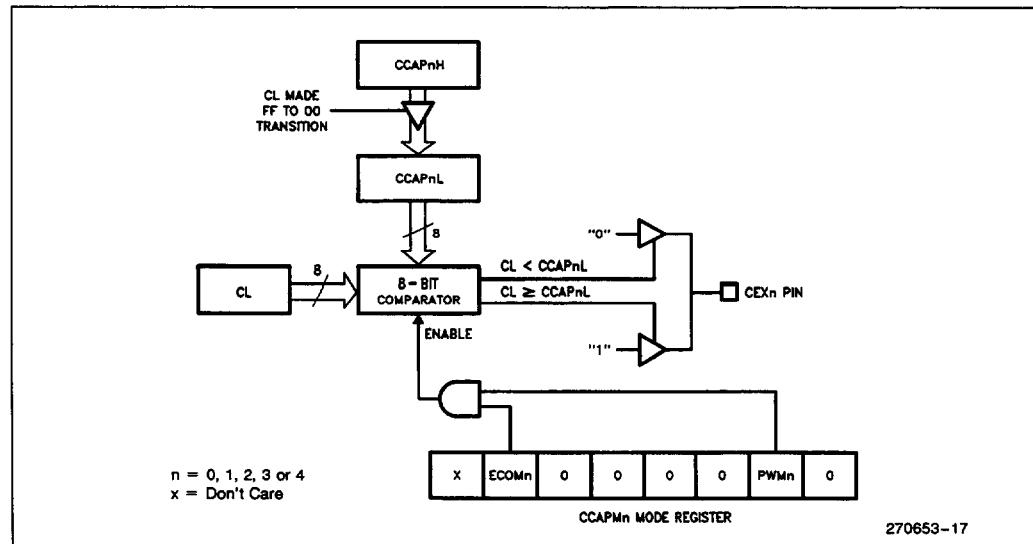

Figure 20. PCA 8-Bit PWM Mode
The PCA generates 8-bit PWMs by comparing the low byte of the PCA timer (CL) with the low byte of the module's compare registers (CCAPnL). Refer to Figure 20. When  $CL < CCAPnL$  the output is low. When  $CL \geq CCAPnL$  the output is high. The value in CCAPnL controls the duty cycle of the waveform. To change the value in CCAPnL without output glitches, the user must write to the high byte register (CCAPnH). This value is then shifted by hardware into CCAPnL when CL rolls over from OFFH to 00H which corresponds to the next period of the output.